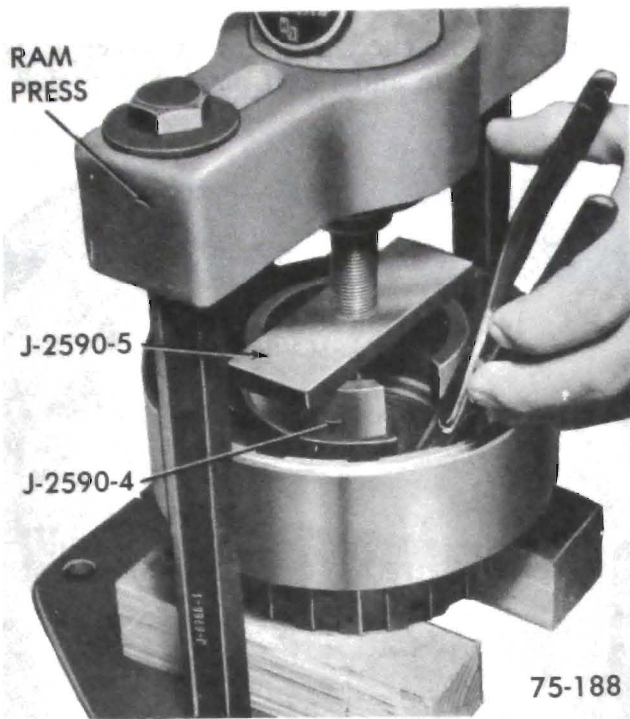

Figure 75-186
4. Remove spring retainer by compressing with a ram press. See Figure 75-186.
4. Install spring retainer. Compress spring retainer with an arbor press or ram press. See Figure 75-186.